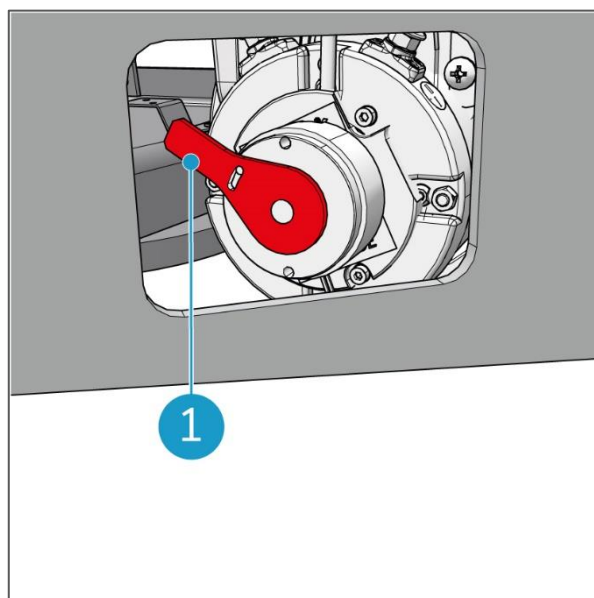

Figure 14
In case you need to move the CO-BOTIC 65 by hand, push the red lever (Figure 14, pos 1) forward to unlock the brake.